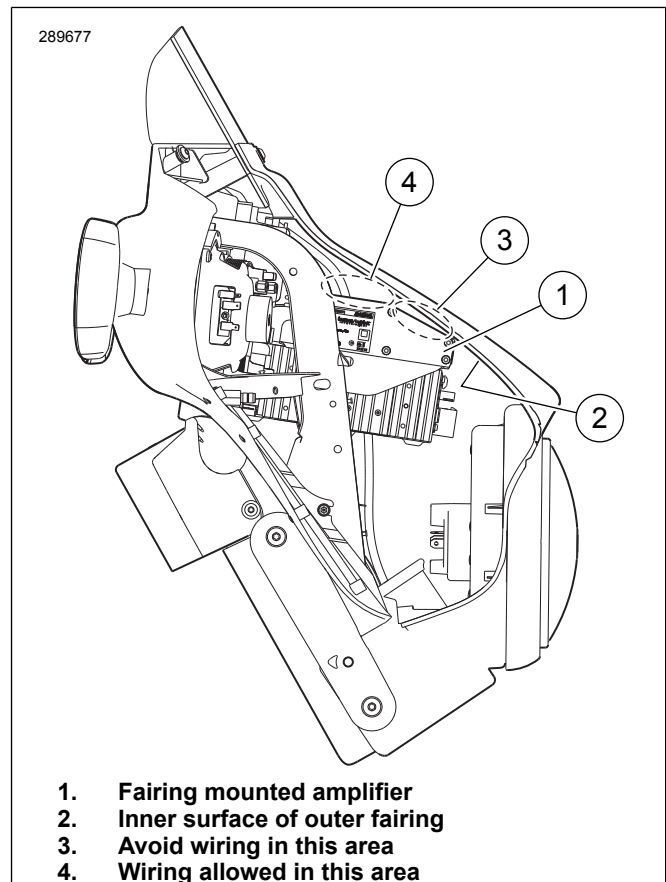

Figure 3. Fairing Mounted Amplifier Wiring Clearances
*See Figure 3. Routing wires and conduit over the amplifier (1) and radio **near the front (headlamp) side** (3) will make installation of the outer fairing (2) difficult due to tight clearance.*
15. Route the amplifier and radio harnesses rearward along the side of the radio and amplifier or the area above the amplifier nearest the inner fairing (See Figure 3., area 4). Use cable straps from the kit to fasten the amplifier and radio harnesses to existing harnesses inside the fairing.